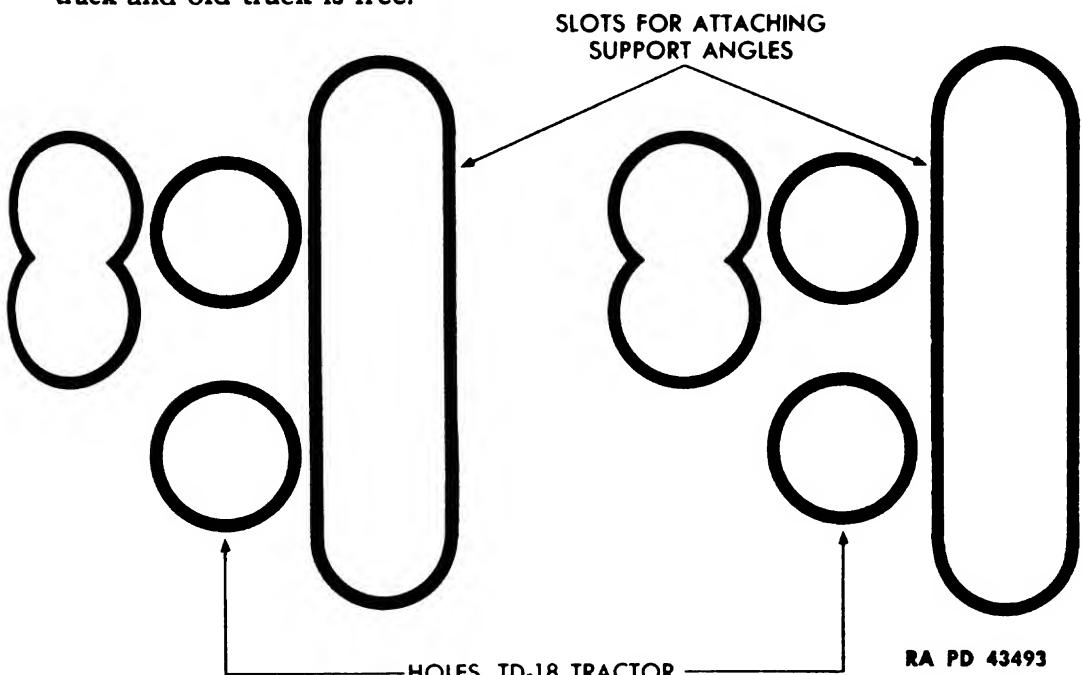

Figure 156 – Locating Holes in Angles
- (1) REMOVE TRACK PLATES AND TRACK SHOES (par. 109).
- (2) BREAK TRACK INTO SHORTER LENGTHS (TO SUIT OPERATOR) (figs. 156, 157, and 158).
(a) Install front support angle SE-1026-56 and rear support angle SE-1026-57 on adjustable head SE-1026-50 by using holes in angles (fig. 156).